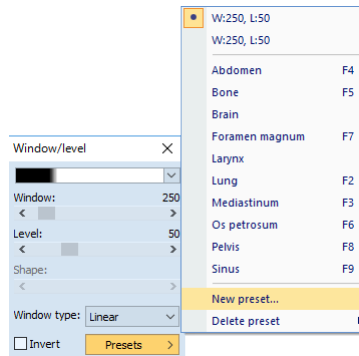
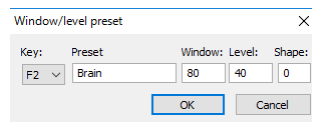

Figure 166 – Creating a new window/level preset
Figure 167 – Window/level preset dialog – defining a new preset
3. Select the **New preset...** menu item (see Figure 166) in the displayed list. The **Window/level preset** dialog (see Figure 167) is then displayed. The initial values for the window, level shape and palette graduation type (even if not displayed) are the same as the current window/level settings in the current view.